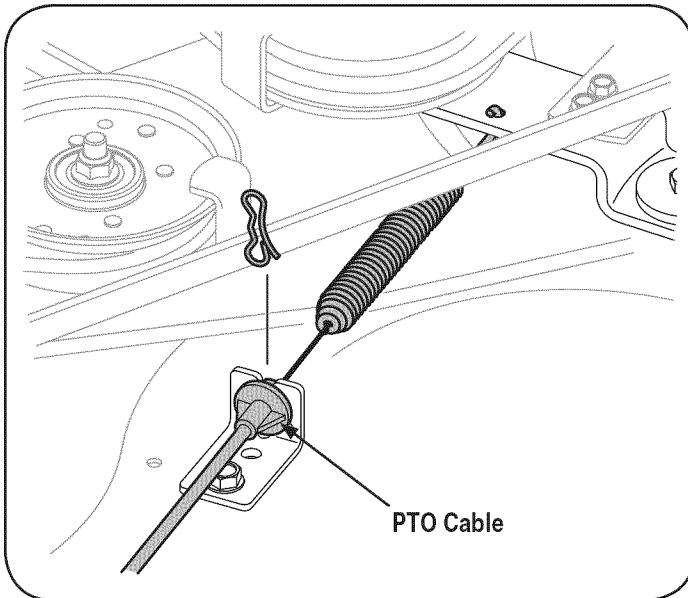

Figure 19
9. Carefully remove the PTO cable from the rear of the cutting deck by removing the bow-tie cotter pin which secures it. Remove the spring from the deck idler bracket. See Fig. 19.